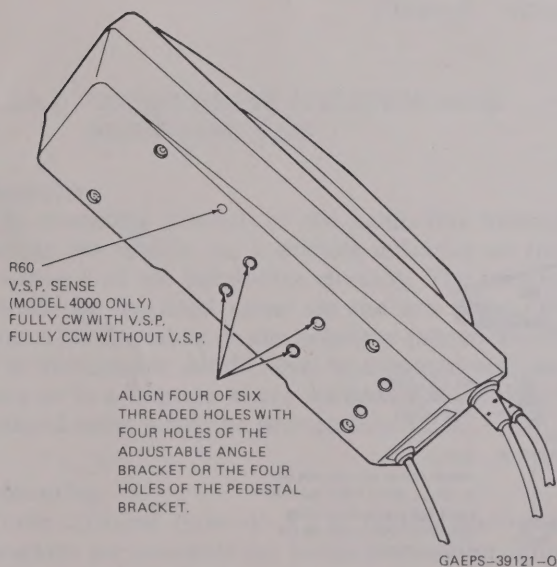
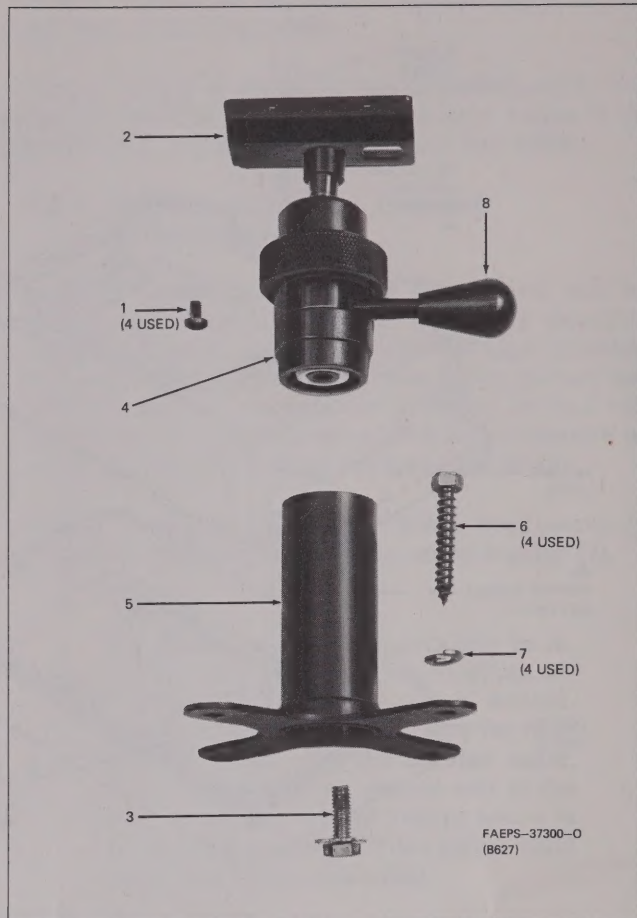
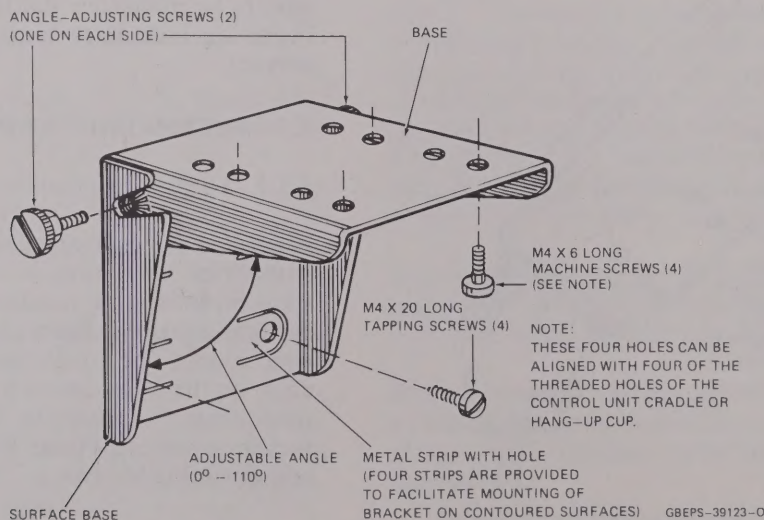

Figure 5. Control Unit Mounting Detail
Figure 6. Deluxe Mounting Pedestal
Figure 7. Adjustable Angle Bracket Installation
3. Before mounting the cradle for the DYNA T•A•C 4000 model, check that V.S.P. sense adjust R60 (accessible from the base of the cradle, see Figure 5) is set for appropriate non-V.S.P. (fully CCW) or V.S.P. (fully CW) operation.
Depending on the model, the control unit either hangs in a standard mounting cup (Figure 4) or is mounted (Figure 5). The standard mounting cup may be mounted by itself or using either the deluxe universal mounting pedestal (Figure 6) or the adjustable angle bracket (Figure 7). The mounted control unit must be installed using the pedestal or bracket. Table 3 describes installation requirements and accessory availability for the various models.
Refer to Figures 4 or 5 and 6. The control unit (or hangup cup) mounts directly to the deluxe mounting pedestal. Figure 6 depicts a 3-inch flat base mounting pedestal. Also available are 3- and 6-inch angled base pedestals and a 3-inch extension that may be used with any of the three pedestal models. Refer to separate instructions provided with the pedestal for details.
Refer to Figures 4 or 5 and 7. Verify that the selected mounting surface is sufficiently strong to support the mounting hardware. The mounting surface does not have to be completely flat since the metal strips (Figure 7) can accommodate mounting surfaces that are slightly curved.